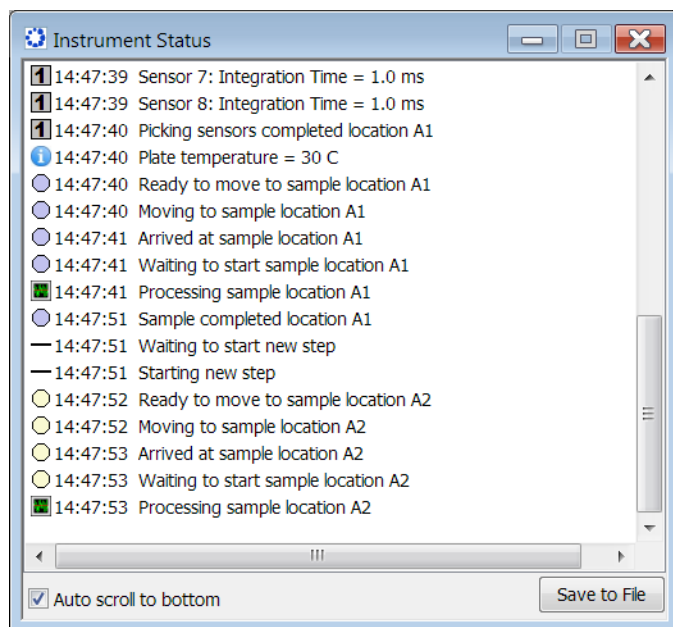

Figure 5-55: Instrument Status Log
- Optional: Click **View > Instrument Status** to view the log file (see Figure 5-55).